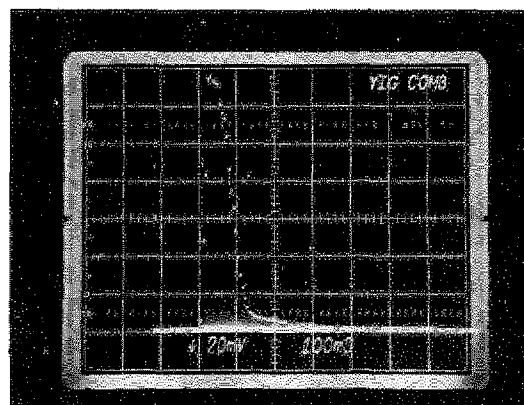

FIGURE 5-2
b. Connect a 1 - 18 GHz broadband calibrated detector to A207J1. The detector output should match Figure 5-2.
(1) 0 to 2 volt positive-going ramp at YIG Control A202J3 pin 5.
(2) RF power at A207J2 (from Source/Amplifier).